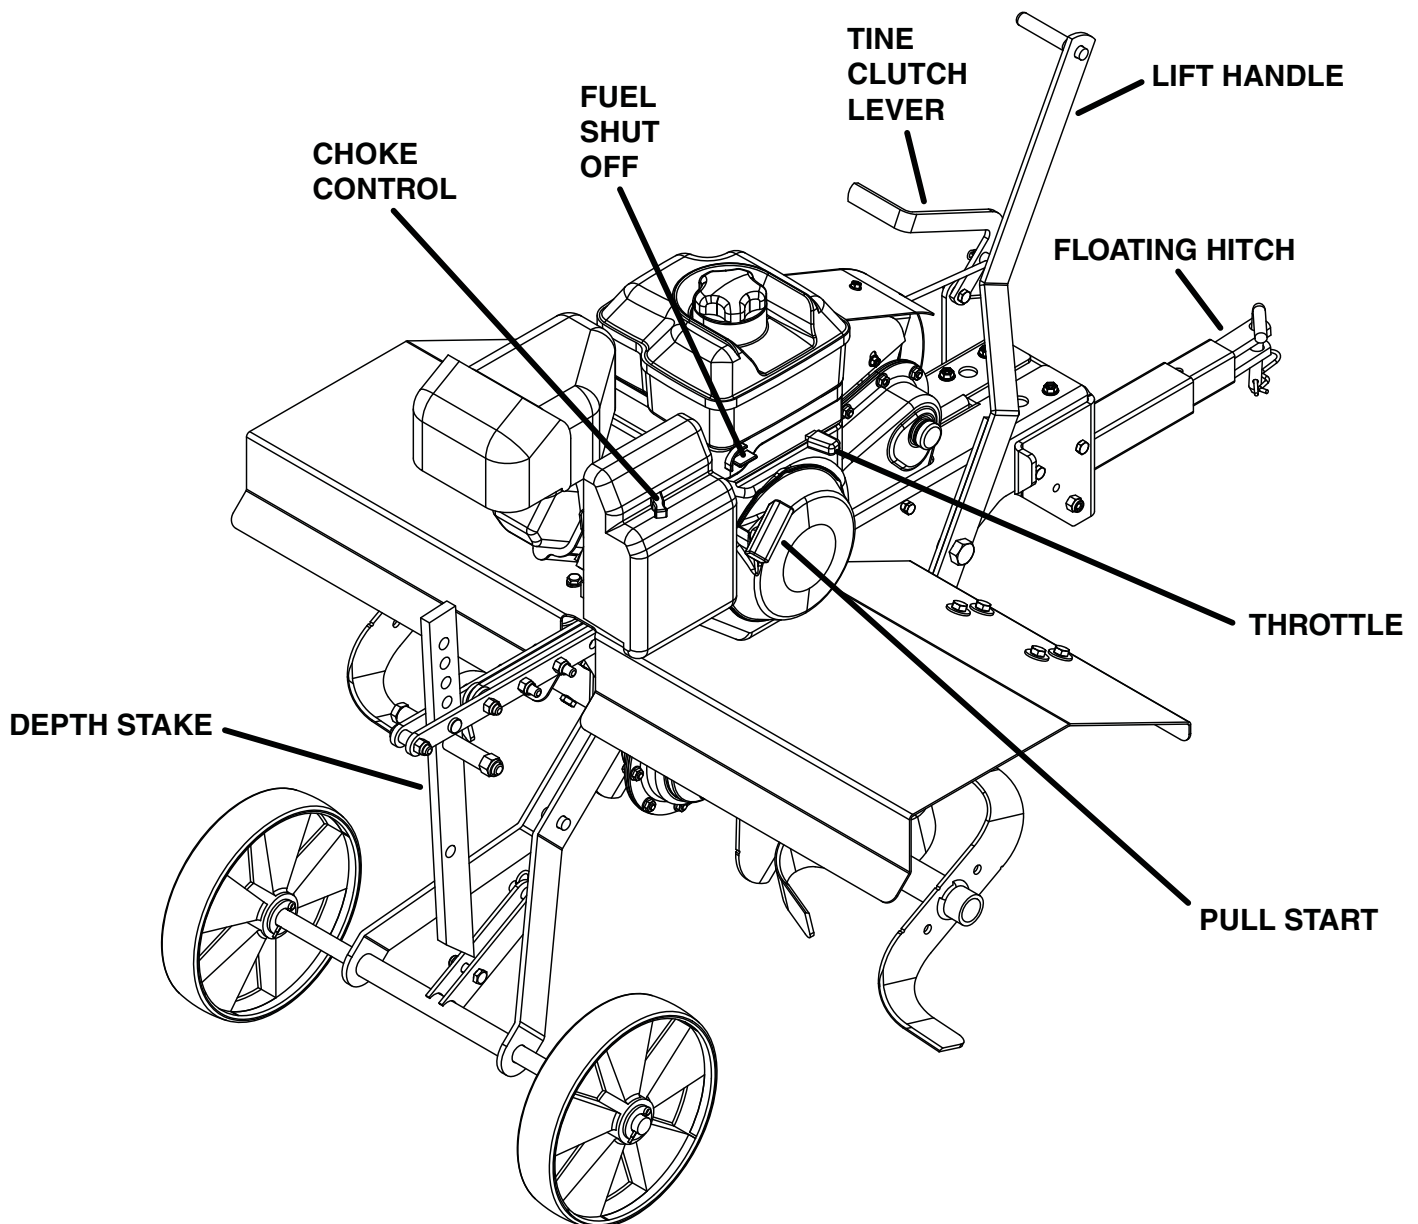

Figure 2
It may be helpful to familiarize yourself with the Controls and Features on your new machine by reviewing **Figure 2** before beginning the steps outlined in this chapter. For technical assistance, please visit our website at www.DRpower.com.
NOTE: The model shown in Figure 2 may look slightly different from your machine.
3. Pull the Lift Handle Forward to lower the wheels (**Figure 2 on previous page**).
1. To change the till depth, remove the Hair Cotter Pin from the Clevis Pin which is connecting the Depth Stake to the Stake Support Bracket (Figure 2 on page 7).